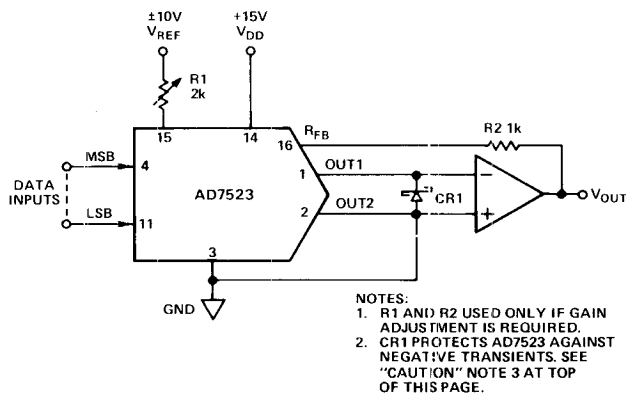

Figure 1. Unipolar Binary Operation (2-Quadrant Multiplication)
3. The inputs of some IC amplifiers (especially wide bandwidth types) present a low impedance to V^- during power-up or power-down sequencing. To prevent the AD7523 OUT1 or OUT2 terminals from exceeding $\sim 300\text{mV}$ (which causes catastrophic substrate current) a Schottky diode (HP5082-2811 or equivalent) is recommended. The diode should be connected between OUT1 (OUT2) and ground as shown in Figures 1 and 2.